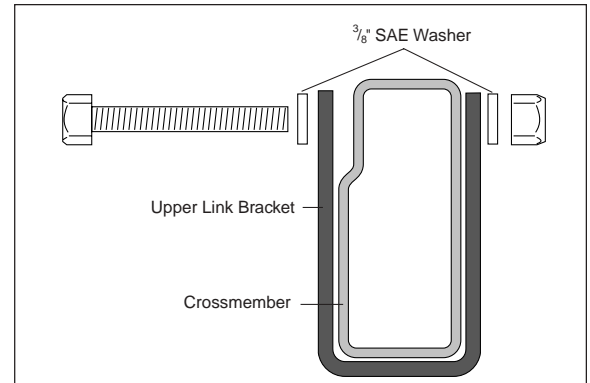

Figure 6
6. Loosely bolt the upper link bracket and upper link bar into place using the $\frac{3}{8}$ " bolts (FF), flat washers (DD), and nylon nuts (CC). Refer to Figure 6.